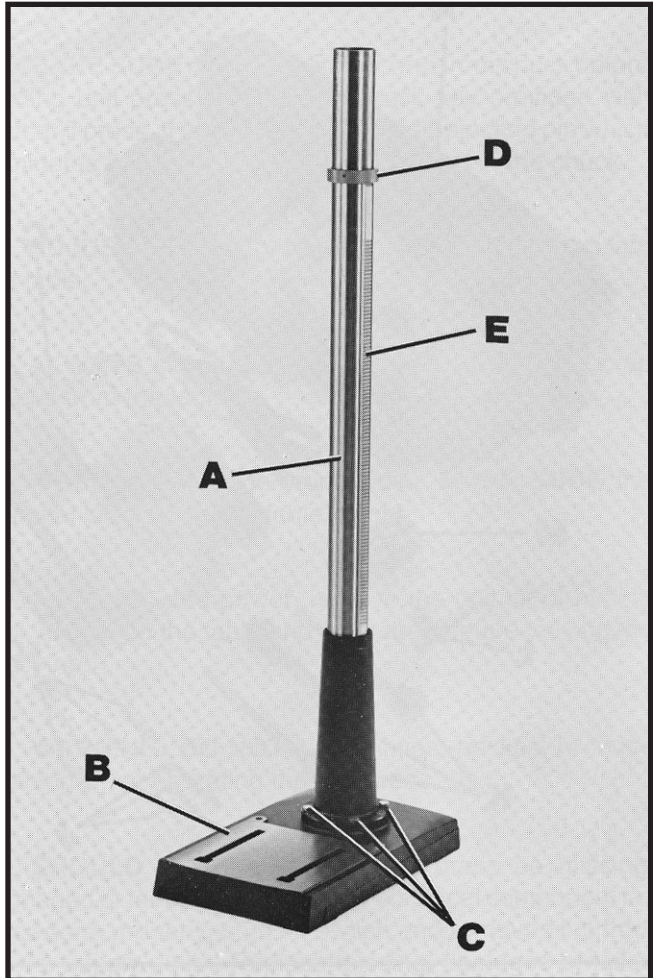

Fig. 3
1. Assemble the column (A) Fig. 3, to the base (B) using the four screws, three of which are shown at (C).
2. Loosen set screw in ring (D) Fig. 3, and remove ring (D) and raising rack (E).